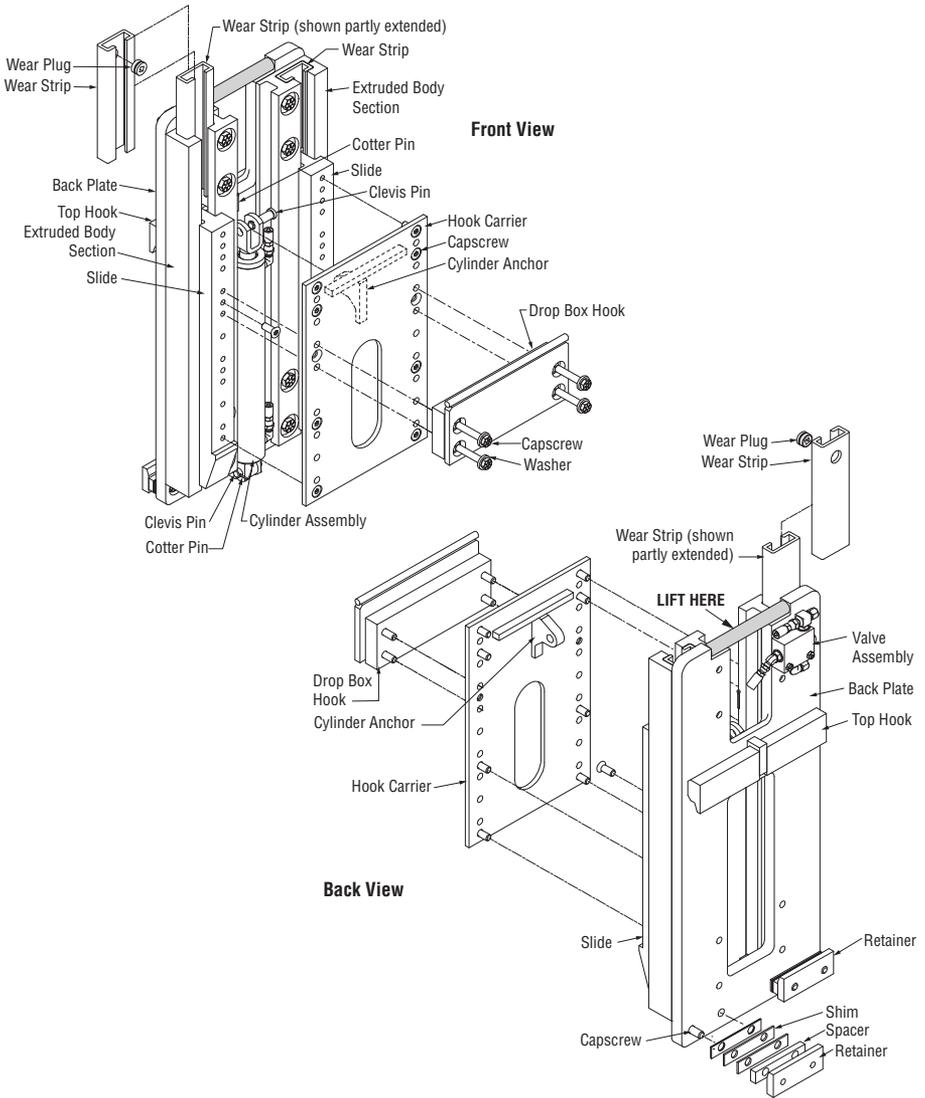

Figure 4-1, Parts
4. Attach a suitable chain or strap around the bar along the top edge of the attachment (see Figure 4-1) and lift it from the truck carriage.